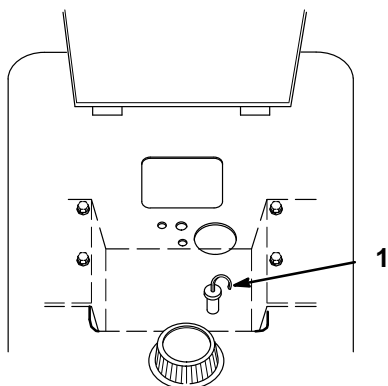

Figure 34
3. Clean around the transaxle dipstick (Fig. 34) so dirt cannot fall into the filler hole and damage the transaxle.
4. Pull out the dipstick and wipe the metal end clean (Fig. 34).
5. Slide the dipstick fully into the filler tube (Fig. 20). Pull the dipstick out and look at the metal end. When transaxle is cold oil should be at the "Full" line on the dipstick (Fig. 34).